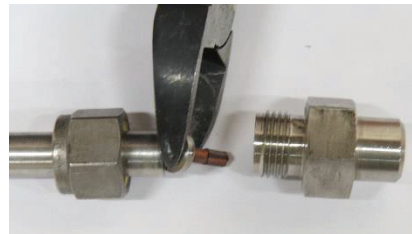

*Figure 34: Separate the trigger line and the PRD block.*
- Using an adjustable wrench or body fixture, hold onto the PRD block and using a 7/8" wrench, hold onto the flats of the retainer nut (Figure 34).